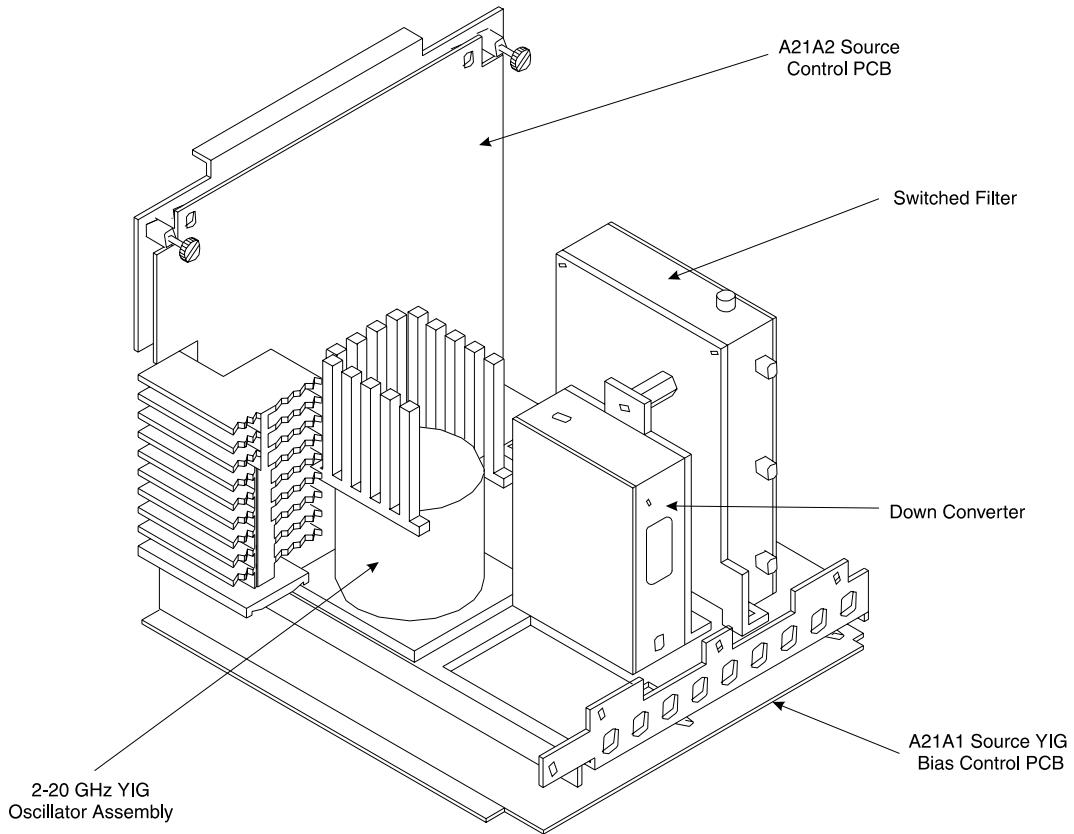

Figure 8-16. Signal Source Module Assemblies Removal Details
- Step 1. Unfasten the two PCB retainers at the top corners of the A21A2 Source Control PCB (see Figure 8-16). To unfasten, turn screwdriver slot $\frac{1}{4}$ turn *counter-clockwise*.
- Step 4. Remove the screw that fastens the front apron of the source module chassis to the heatsink of the A21A1 PCB. See Figure 8-16.